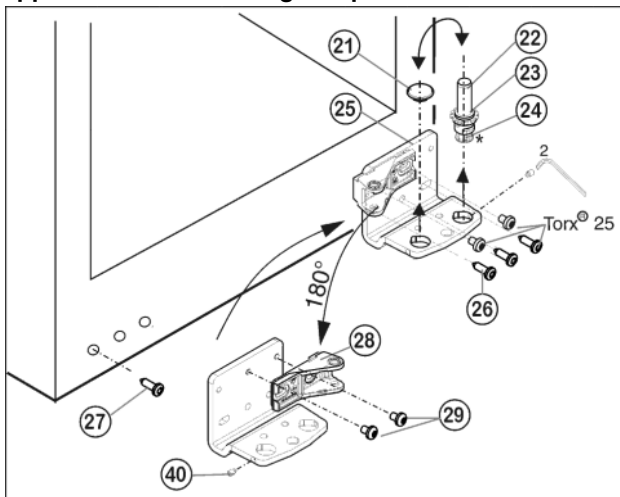

Fig. 7*
- ▶ Using the accompanying Allen key, unscrew the threaded pin Fig. 7 (40) by about 1 turn.
- ▶ Turn and lift out the bearing pin Fig. 7 (22) together with washer Fig. 7 (23) and adjustable-height foot* Fig. 7 (24).
- ▶ Lift off the stopper Fig. 7 (21).
- ▶ Unscrew the turn hinge Fig. 7 (25).
- ▶ Fully unscrew the threaded pin Fig. 7 (40) and screw it in on the opposite side, at the turn hinge, until it is flush outside with the turn hinge.
- ▶ Re-insert the stopper Fig. 7 (21) into the other hole.
- ▶ Undo the screw Fig. 7 (27) and transfer it to the opposite side.
- ▶ Screw the turn hinge Fig. 7 (25) firmly into place on the new hinge side, possibly using a cordless screwdriver (with 4 Nm).
- ▶ Re-insert the bearing pin Fig. 7 (22) together with washer and adjustable-height foot*.
- ▶ Tighten the threaded pin Fig. 7 (40).
- ▶ Place the door from above onto the lower bearing pin Fig. 7 (22).
- ▶ Align the door to the appliance housing by way of the two oblong holes in the bottom turn hinge Fig. 7 (25). To do so, unscrew the middle screw.